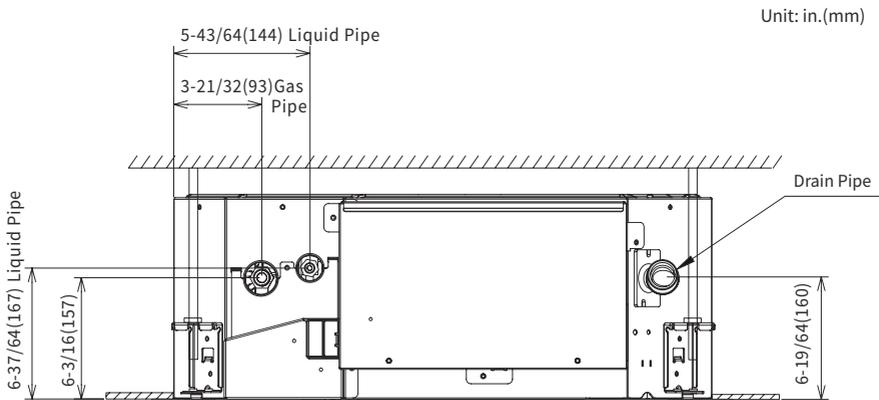

Fig. 4.1 Pipe Connection Points
- (1) The connection point and diameter of piping are shown in Fig. 4.1 and Table 4.1.